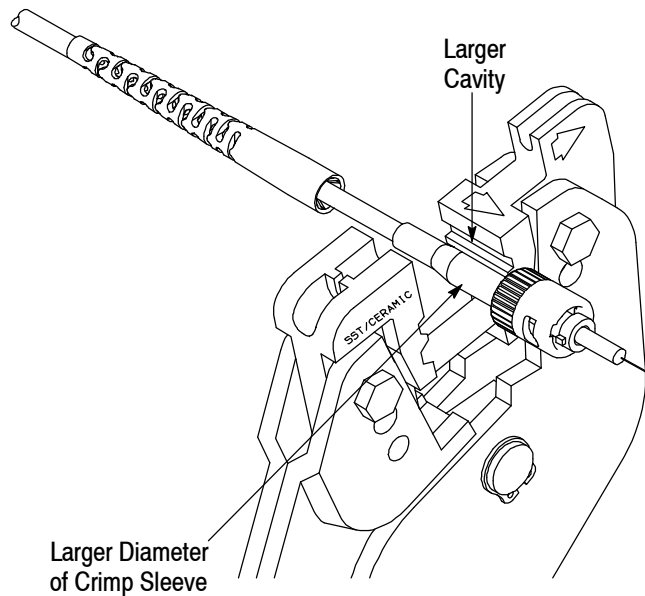

Figure 11
- c. Using the crimping tool, place the larger cavity around the larger diameter (closest to the connector body) of the crimp sleeve. See Figure 11.